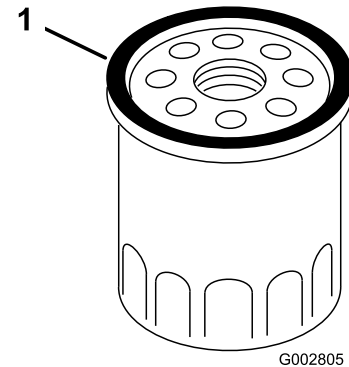

Figure 23
4. Use your finger to coat the gasket on the new filter with oil (Figure 23).